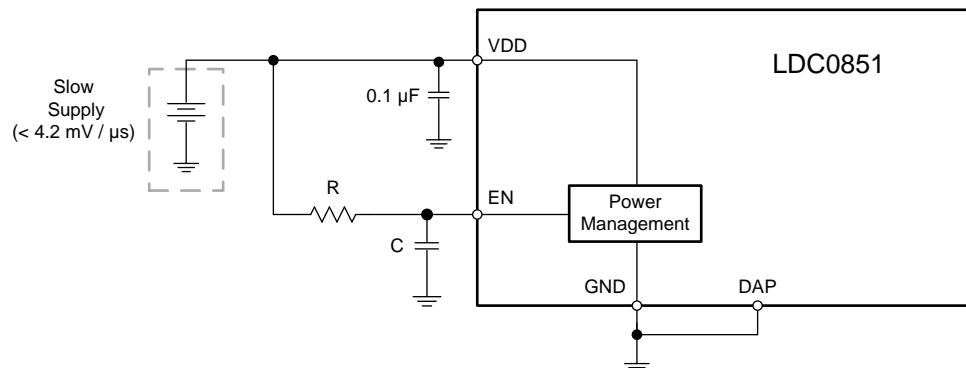

图 33. Supply Connections for Slow Ramp Rate
For supply ramp rates slower than 4.2 mV/ μs , an RC low pass filter must be added to the enable input (EN) as shown in 图 33. Alternatively, the EN pin may be tied to a nanotimer or microcontroller to wake up the LDC0851 after VDD has ramped to its nominal value.